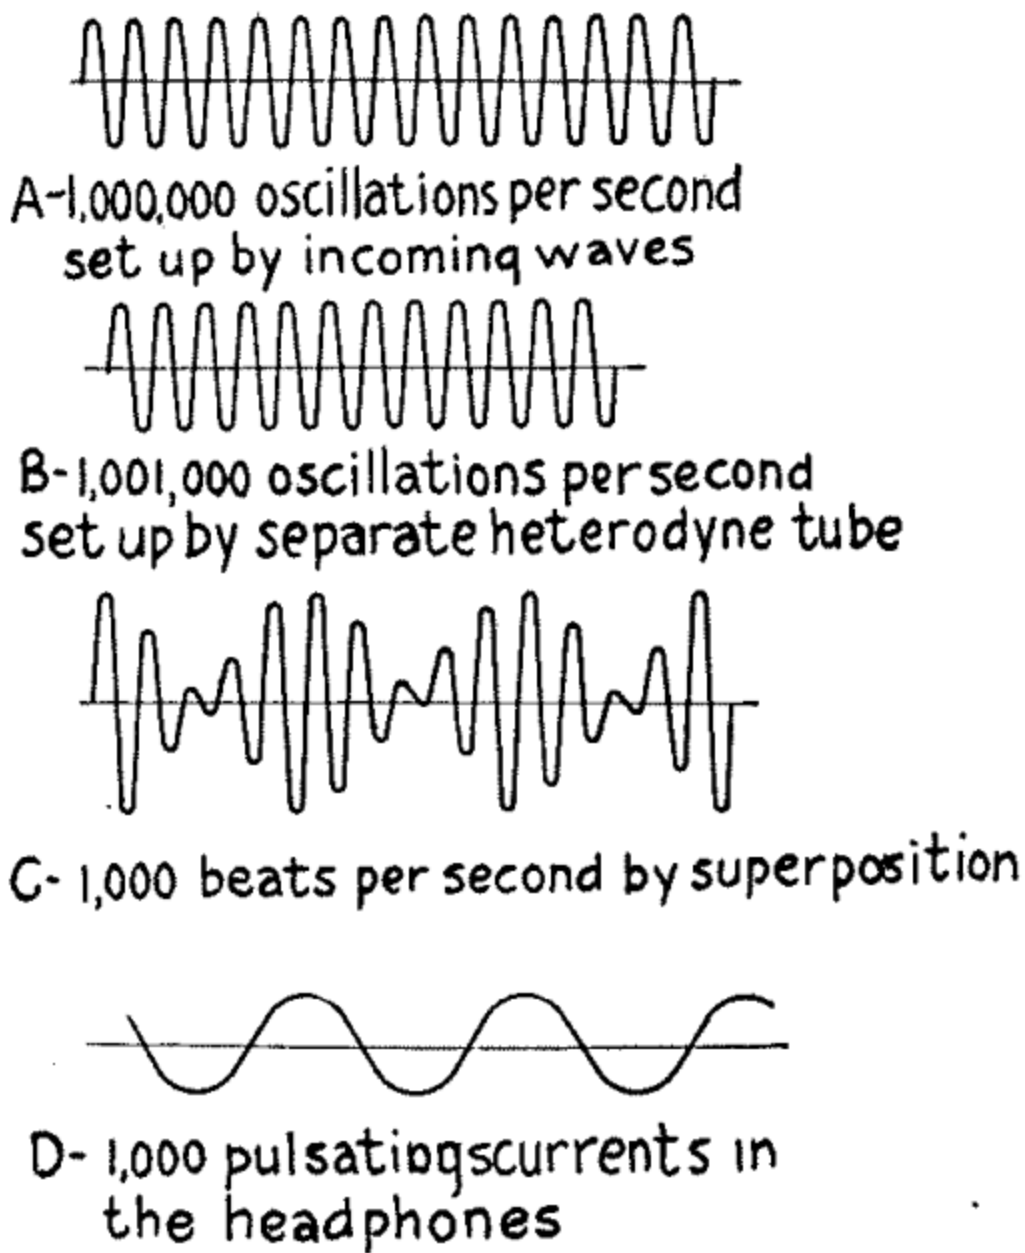

FIG. 73.—How the Heterodyne Receptor Works.
As these rising and falling currents act on the pulsating currents from the *B* battery which flow through the detector tube and the headphones you will hear them as beats. A graphic representation of the oscillating currents set up by the incoming waves, those produced by the heterodyne oscillator and the beats they form is shown in *Fig. 73*. To produce these beats a receptor can use: (1) a single vacuum tube for setting up oscillations of both frequencies when it is called an *autodyne*, or *self-heterodyne* receptor, or (2) a separate vacuum tube for setting up the oscillations for the second circuit when it is called a *heterodyne* receptor.